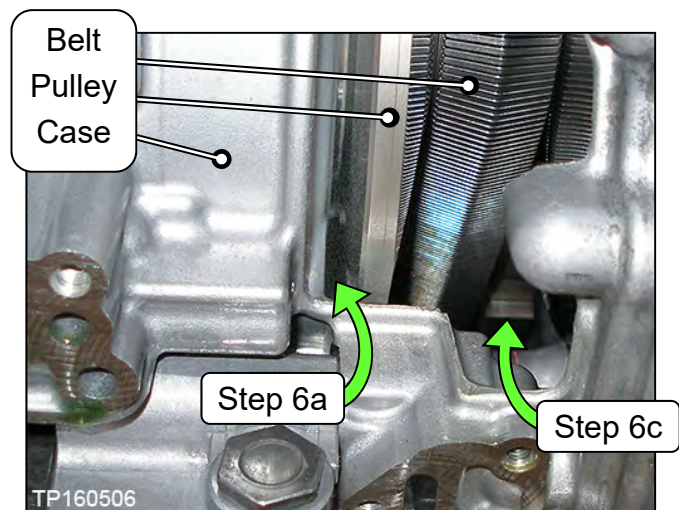
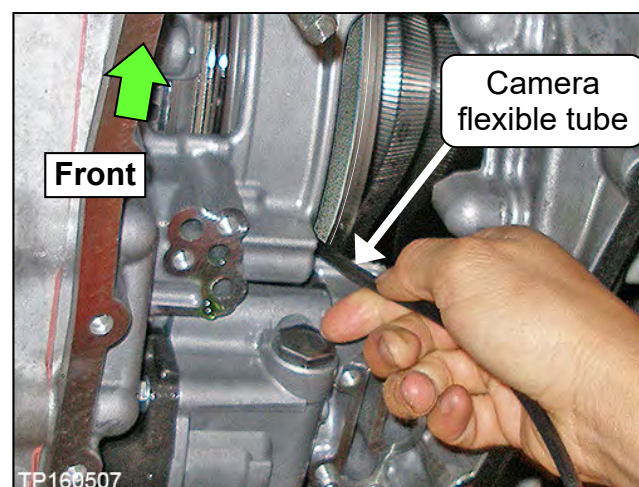
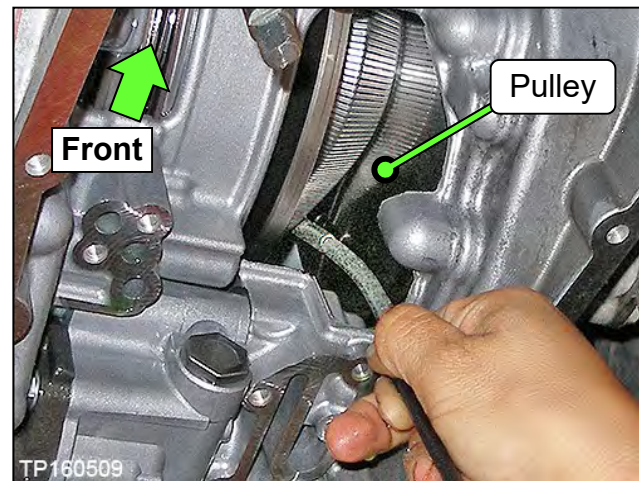

Figure 11
Figure 12
Figure 14
- a. Insert the camera lens between the CVT case and pulley where shown in Figure 11 and Figure 12.
- Insert the lens approximately seven (7) inches, and then view the side of the belt that contacts the pulley.
- Insert the camera lens in the second location where shown in Figure 11 and Figure 14, and then perform step 6b again.